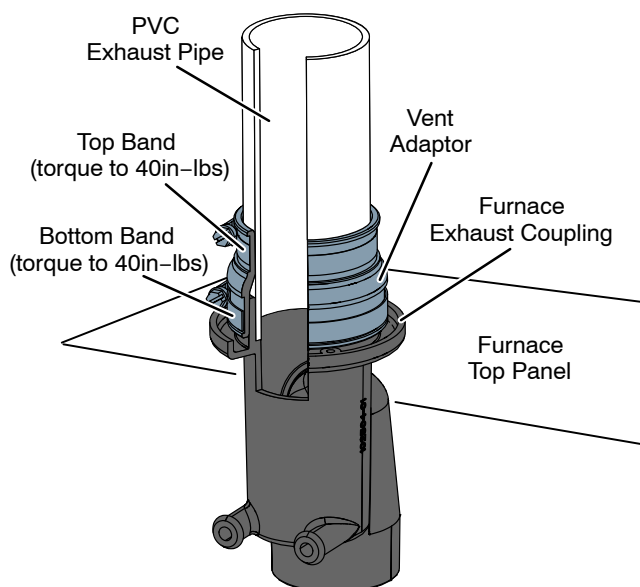

FIGURE 20
NOTE - Exhaust coupling must be installed with provided appliance adapter. See figure 20.
Exhaust Piping (Figures 20, 23 and 24)
- 4 - Tighten both top and bottom bands to 40 in lbs. See figure 20.